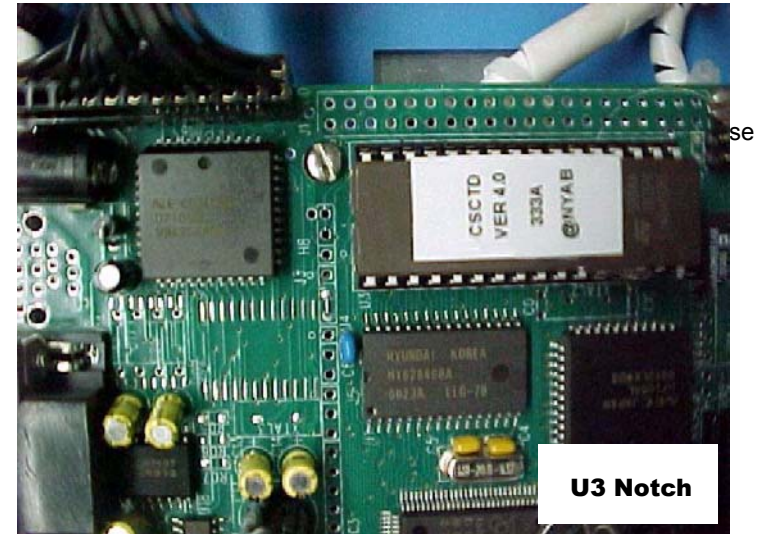

Figure 11
- 19.11 Install the newly supplied IC. Note the orientation of the IC to the computer PCB. The notch on the IC is oriented towards the H10 connector as shown in Figure 11.